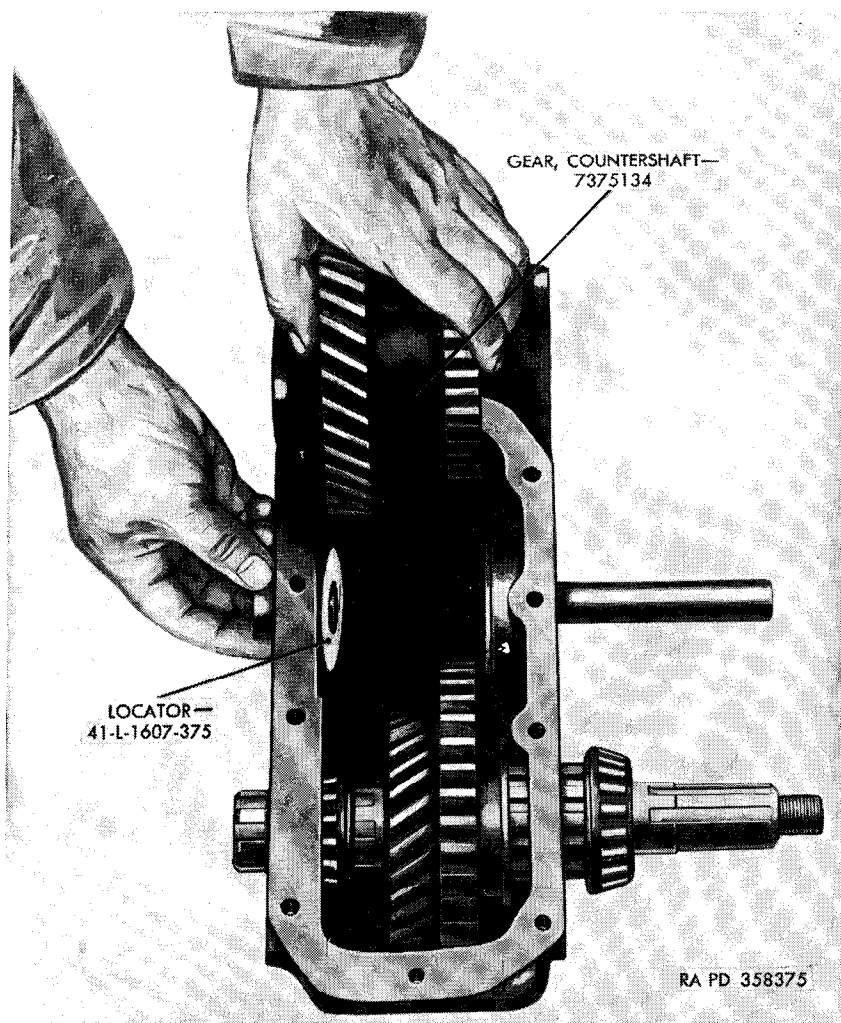

Figure 45. Installing countershaft thrust washer locator.
Insert the two countershaft bearings (Y) into the bore of the countershaft gear (E). Apply a thick coat of grease to countershaft gear thrust washer (F) and place in position. Start the countershaft (W) through the transfer case (A) enough to hold the countershaft gear thrust washer from slipping. Apply a thick coat of grease to the other countershaft gear thrust washer (X) and place in position. Insert locator 41-L-1607-375 (fig. 45), through the countershaft opening in the case, being careful to note that countershaft gear thrust washer (X) is over the locator. Place the countershaft gear with countershaft bearings between the two countershaft gear thrust washers. Tap the countershaft through the countershaft gear and opposite side of the case, removing the locator. Install the countershaft lock plate (V), the $\frac{3}{8}$ -inch lock washer (U) and countershaft lock plate cap screw (T), securing the countershaft lock plate.